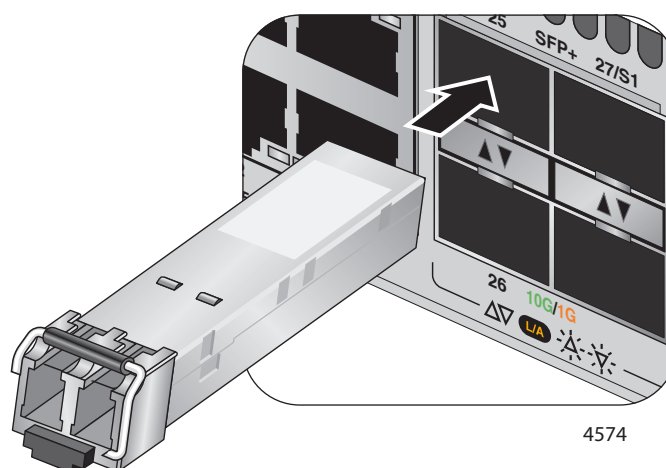

Figure 61. Installing an SFP Transceiver
3. If you are installing the transceiver in a top port, position the transceiver with the Allied Telesis label facing up. If you are installing the transceiver in a bottom port, position the transceiver with the label facing down. Refer to Figure 61.